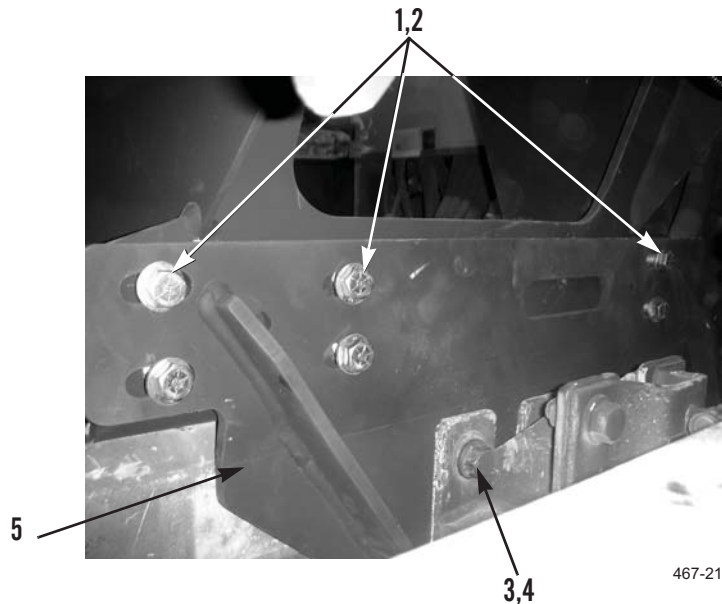

Figure 24. Tighten PLS Bolts.
7. Tighten 12 bolts (Figure 24, Item 1) and nuts (Figure 24, Item 2) securing stowage assembly to support brackets (Figure 24, Item 5).
8. Tighten 14 bolts (Figure 24, Item 3) and nuts (Figure 24, Item 4) securing support brackets (Figure 24, Item 5) to frame.